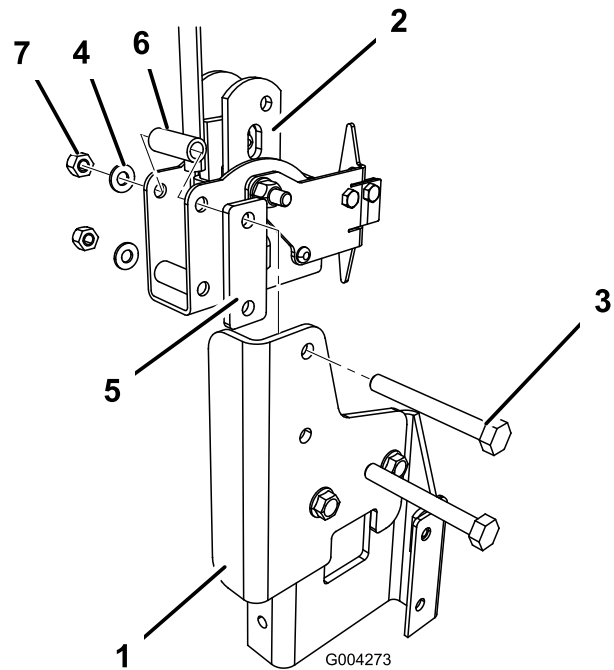

Figure 19
4. Install the shift selector to the bracket using two bolts (5/16 x 2-1/2 inch), 1 shim, two spacers, two washers and two lock nuts (5/16 inch) (Figure 19).